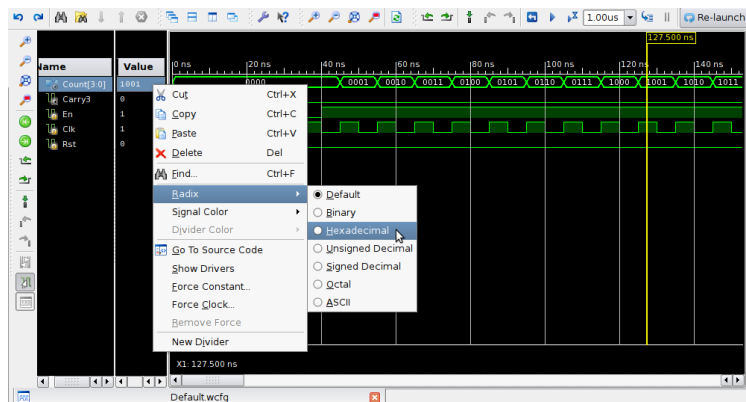

Figure 8: Change Radix to Hexadecimal
- (e) From within the waveform window, right-click on “Count” and select *Radix* → *Hexadecimal* to change the display format of the “Count” bus to hexadecimal. See Figure 8.